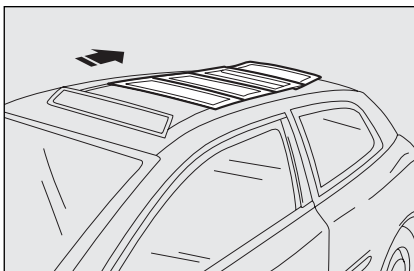

fig. 79
- Second knob click: complete opening of the first blade and movement of the other ones towards the rear part **fig. 79** together with movement of the sun curtain.